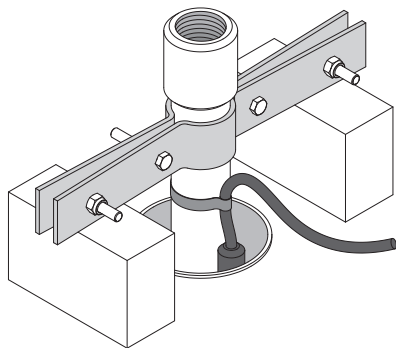

Fig. 7.5 - For details see page 401
- It is advised to connect a short section of pipe to the pump delivery port first, securing the electric power supply cable to it. Secure a supporting bracket to the other end under the sleeve or the coupling flange (Fig. 7.5).